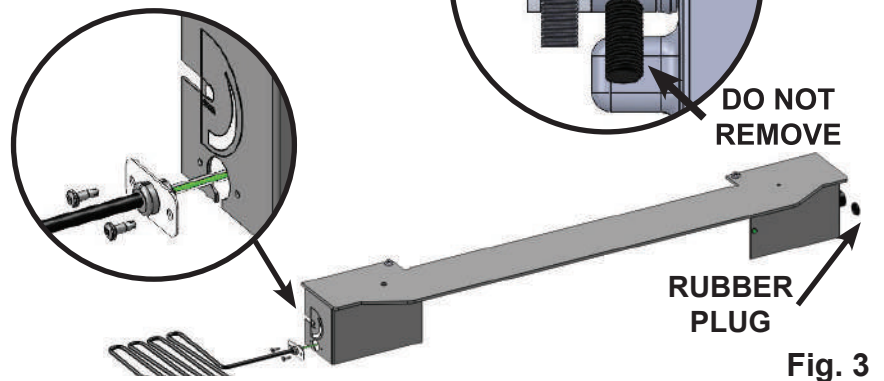

Fig. 3
1. Before installing the lower shroud onto the appliance, determine where the nearest electrical outlet is before fastening the power cord mount to either the left or right side of the lower shroud. Be sure to install the plastic plug into the opposite, unused power cord slot. (Fig. 3)